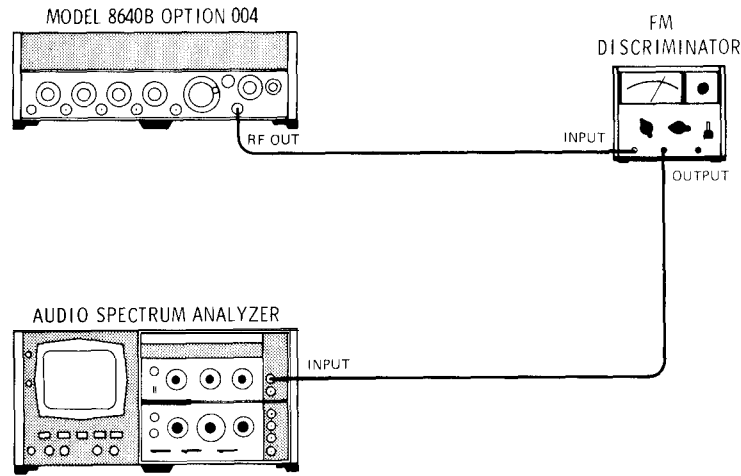

Figure 4-29. FM Distortion Test Setup
1. Connect equipment as shown in Figure 4-29 after setting Signal Generator's controls as follows: